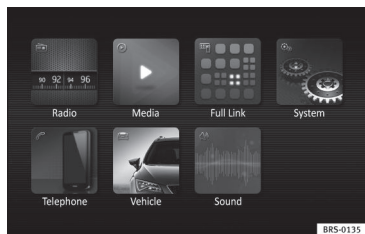

Fig. 46 Easy Connect: Main menu.
- Press the Infotainment button **MENU** /  and then the **Vehicle** function button **>>>** **Fig. 46**,